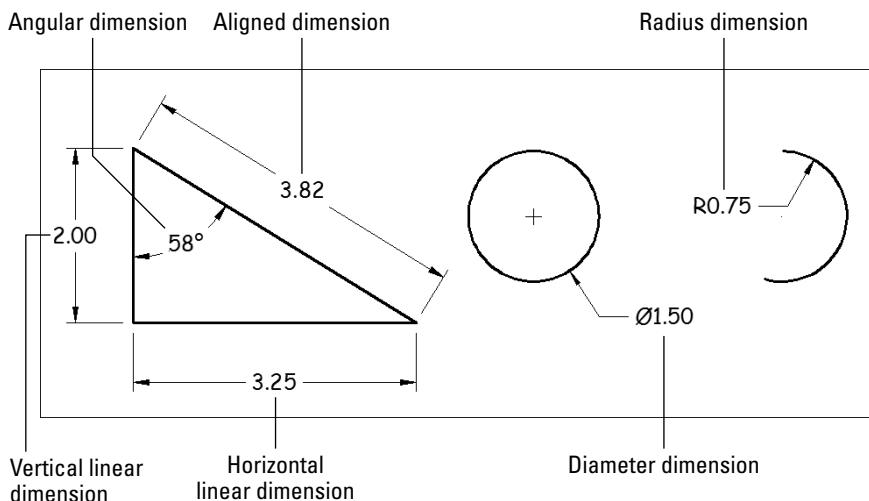

Figure 14-3:
✓ **Dimension lines:** In linear dimensions, the *dimension lines* indicate the true distance between points. Linear dimension lines can be horizontal, vertical, rotated at a specific angle, or aligned with the object being dimensioned. Angular dimensions have curved dimension lines with the center of the curve at the vertex point of the objects being dimensioned. For radius and diameter dimensions, the dimension line simply points at the object being dimensioned (see Figure 14-3 for examples of these dimension types).
AutoCAD provides several types of dimensions and commands for drawing them. Figure 14-3, earlier in this chapter, shows the most common types, and the following list describes them:
- ✓ **Radial dimensions:** A *radius* dimension shows the radius of a circle or an arc, and a *diameter* dimension calls out the diameter of a circle or an arc. You can position the dimension text inside or outside the curve, as shown in Figure 14-3. If you position the text outside the curve, AutoCAD (by default) draws a little cross at the center of the circle or arc. As shown in Figures 14-2 and 14-3, AutoCAD automatically adds the diameter and radius symbols to the appropriate dimension type.